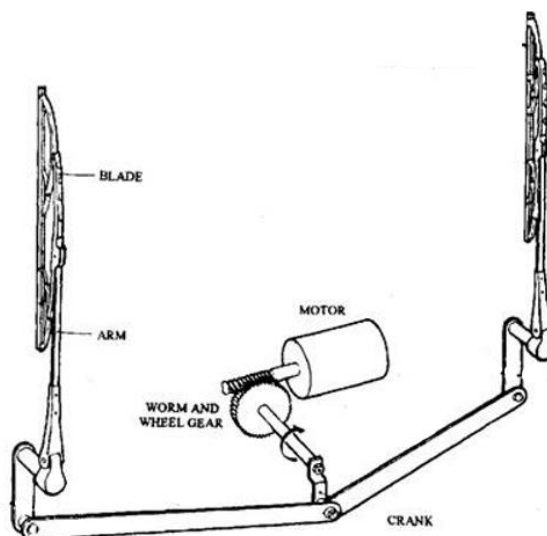

Figure 7: Windows Wipers
c. Describe the output of the linkage system given in Figure 7.